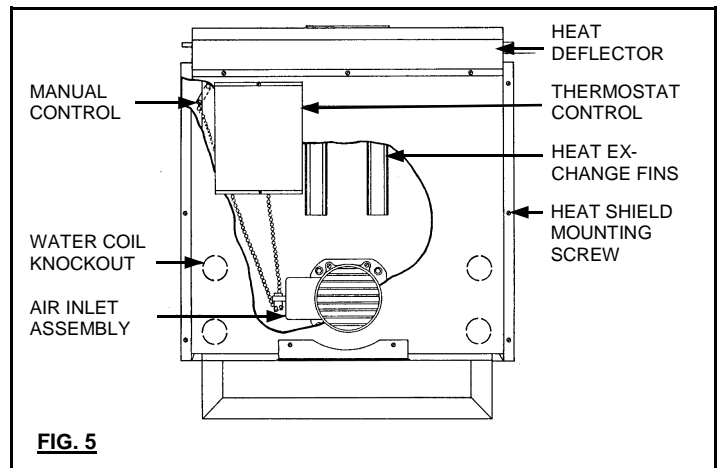

FIG. 5
5. Punch out 2 knockouts at back of stove. Reach in through punched out holes with a bar extension and punch out knockouts in primary heat exchanger. (see Fig 5.)